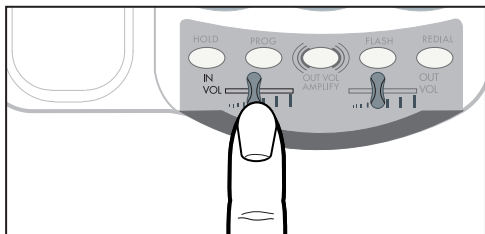

Figure 11 - Tone Slide Control
1. Adjust the **IN VOL** slide control in Figure 11 to suit your hearing.